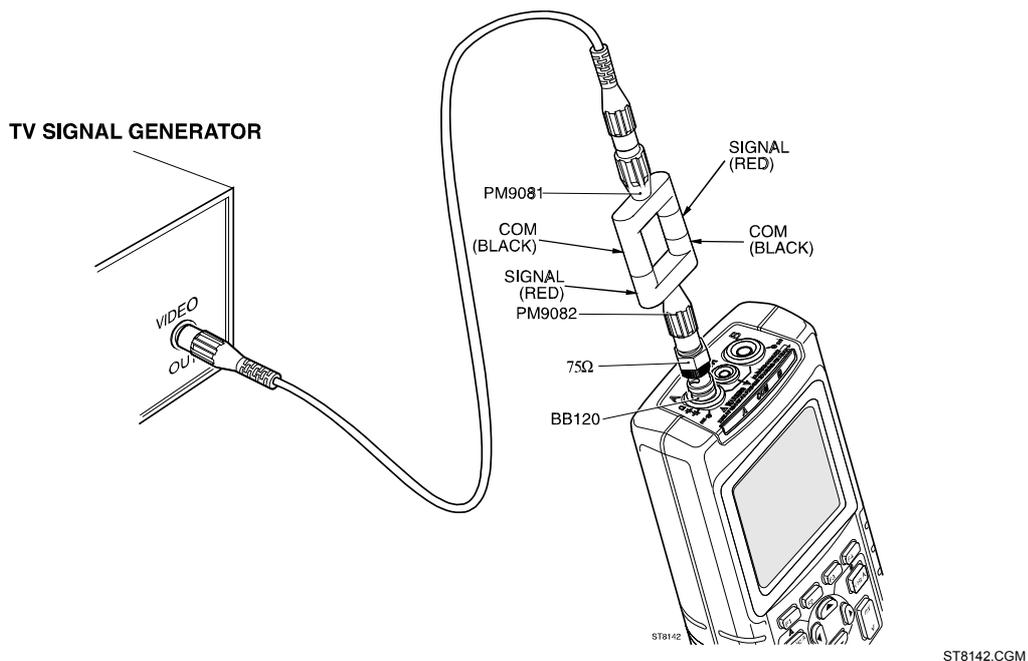

Figure 4-13. Test Tool Input A to TV Signal Generator Inverted
- Apply the inverted TV Signal Generator signal to the test tool. You can invert the signal by using a Banana Plug to BNC adapter (Fluke PM9081/001) and a Banana Jack to BNC adapters (Fluke PM9082/001), as shown in Figure 4-13.